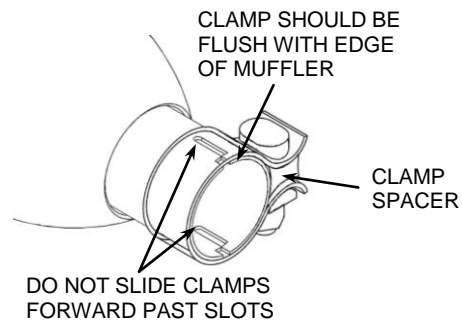

FIGURE 2
7. Check all clearances and alignments then tighten the mounting bolts to factory specifications. Tighten the muffler clamps. (NOTE: The muffler clamps should be flush with the end of the muffler when tightened. See **Figure 2**. If the muffler clamps are slid forward past the slots on the slip collar the clamps will not tighten the mufflers properly. Also, make sure the clamp spacer is not over the slots. The slots need to be covered by the clamp band so that it seals the slots properly. Rotate the clamp if necessary.)